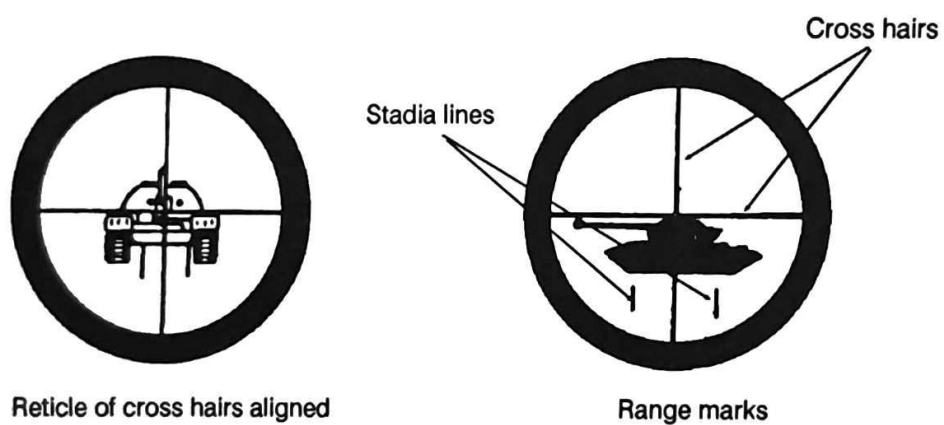

Figure 1-4. Day tracker reticle and stadia lines.
(6) The day tracker's telescopic sight and infrared receiver are aligned to define the LOS to the target. The sight reticle pattern is a tapered cross hair that causes the eye to concentrate on the center of the FOV. This aids the gunner to quickly adjust the center of the cross hairs and place them center mass of the target. A pair of stadia lines (Figure 1-4) are used to aid the gunner to determine the range of a target. The stadia lines are set up for the standard Threat vehicle (6 meters by 3 meters) at the maximum engagement range of 1,000 meters.